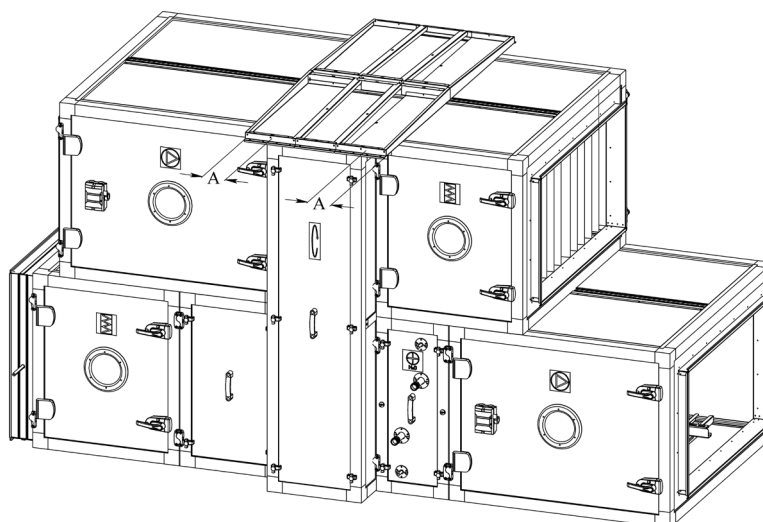

Figure 11.3
6. Assemble the opposite side of the frame in the same way as the first one. Complete frame assembly is shown in Figure 11.3.